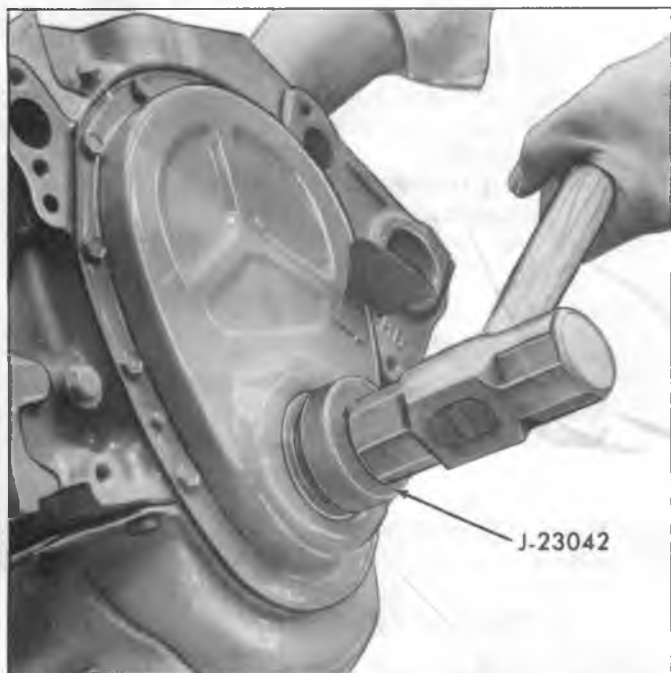

Fig. 14V—Installing Oil Seal (Cover Installed)
2. Install new seal so that open end of seal is toward the inside of cover and drive it into position with Tool J-23042 (fig. 14V).